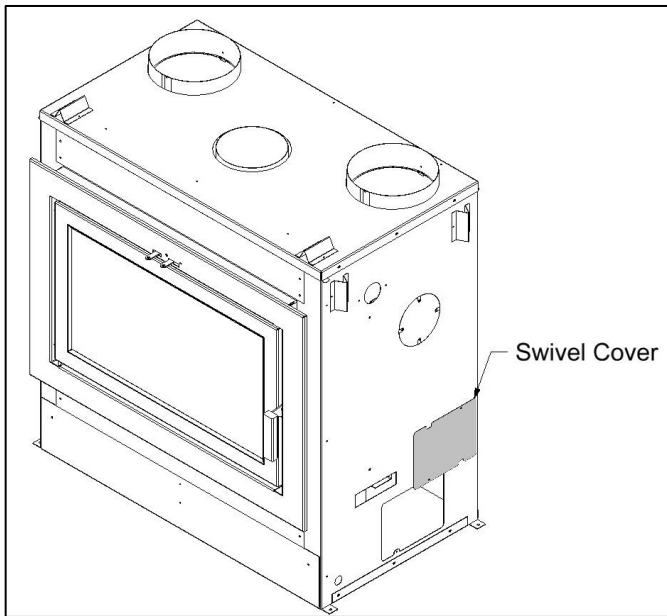

Figure 3-16: Intake Swivel Cover Kept Open for Clean Face Installations
6. Secure the Intake Swivel Covers on the bottom sides of the unit to the **open** position (Figure 3-16).
- The intake swivel covers at the bottom sides must remain open for all Clean Face installations. Refer to Figure 3-16.